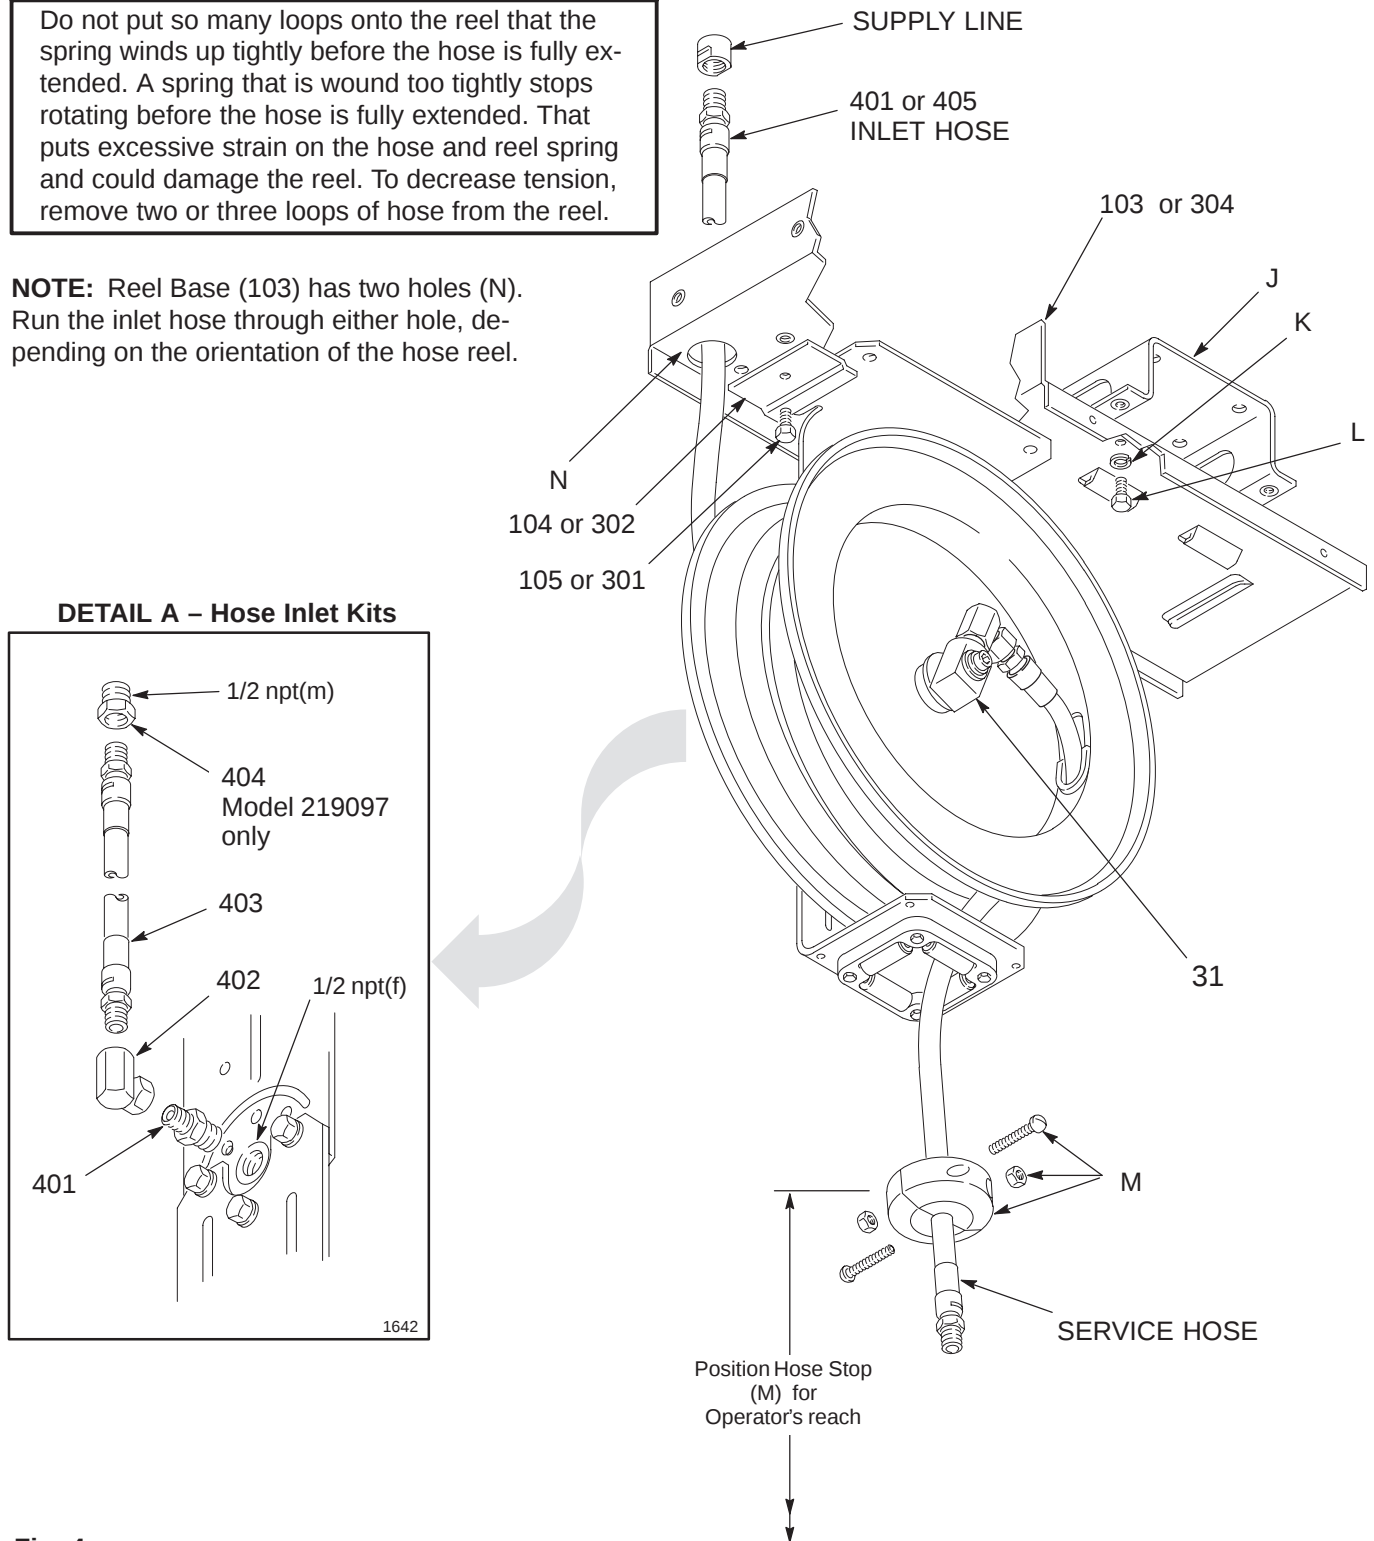

Fig. 4
If you are installing the hose reel enclosure, bolt the reel base (103 or 304) to the mounting channel (J), using the lockwashers (K) and screws (L) which are supplied with the mounting channel. See Fig. 4.
4. **Slide the hose reel onto the mounting base** and install the hold-down plate (104 or 302) and cap screw (105 or 301). Tighten the screw firmly. See Fig. 4.
NOTE: All other hose reels listed in this manual are supplied with a Hose Inlet Kit. Refer to Detail A in Fig. 4, and page 32.
If you are installing a hose on a bare reel, connect the service hose to the swivel (31). See Fig. 4. Then wrap the hose loosely around the flange. Extend the hose fully and latch it. Wrap one or two loops around the hose reel, then retract the hose again.